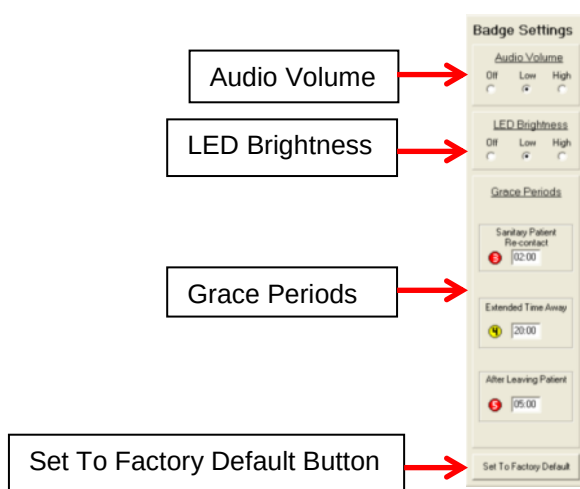

Figure 4 Badge Settings
2.4 Badge Settings (refer to Figure 4)